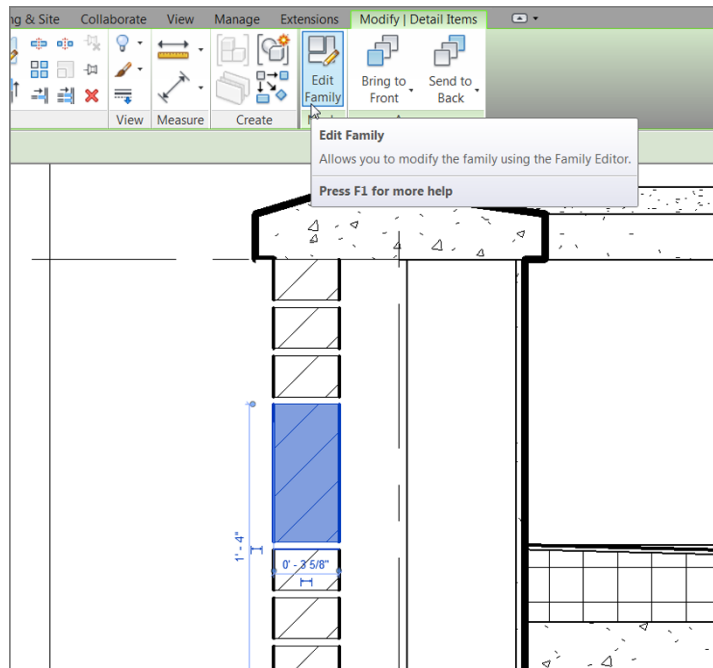

FIGURE 12.16: Open the family for editing after selecting the detail component.
3. On the Modify | Detail Items tab, click the Edit Family button, as shown in Figure 12.16.